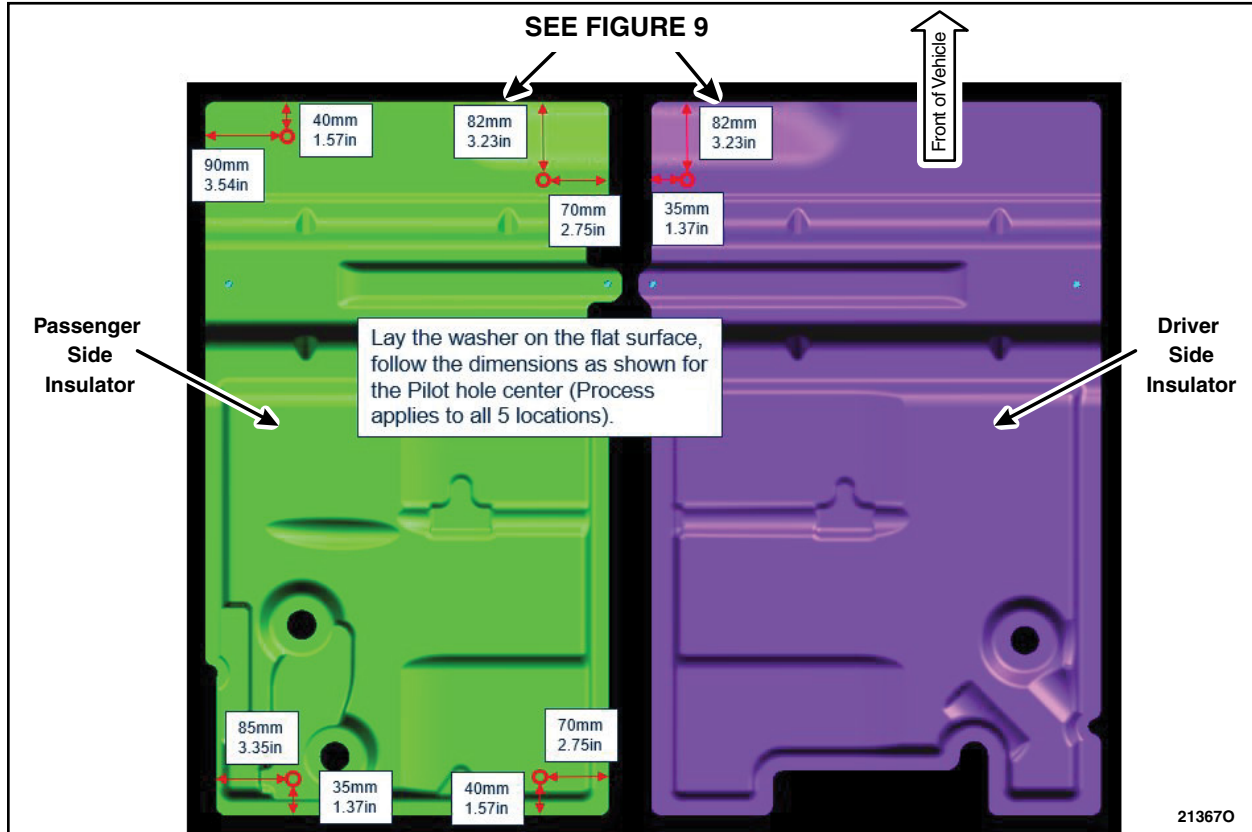

FIGURE 8
13. Measure and mark the four locations on the passenger side insulator and mark the one location on the driver side insulator. See Figures 8 and 9.